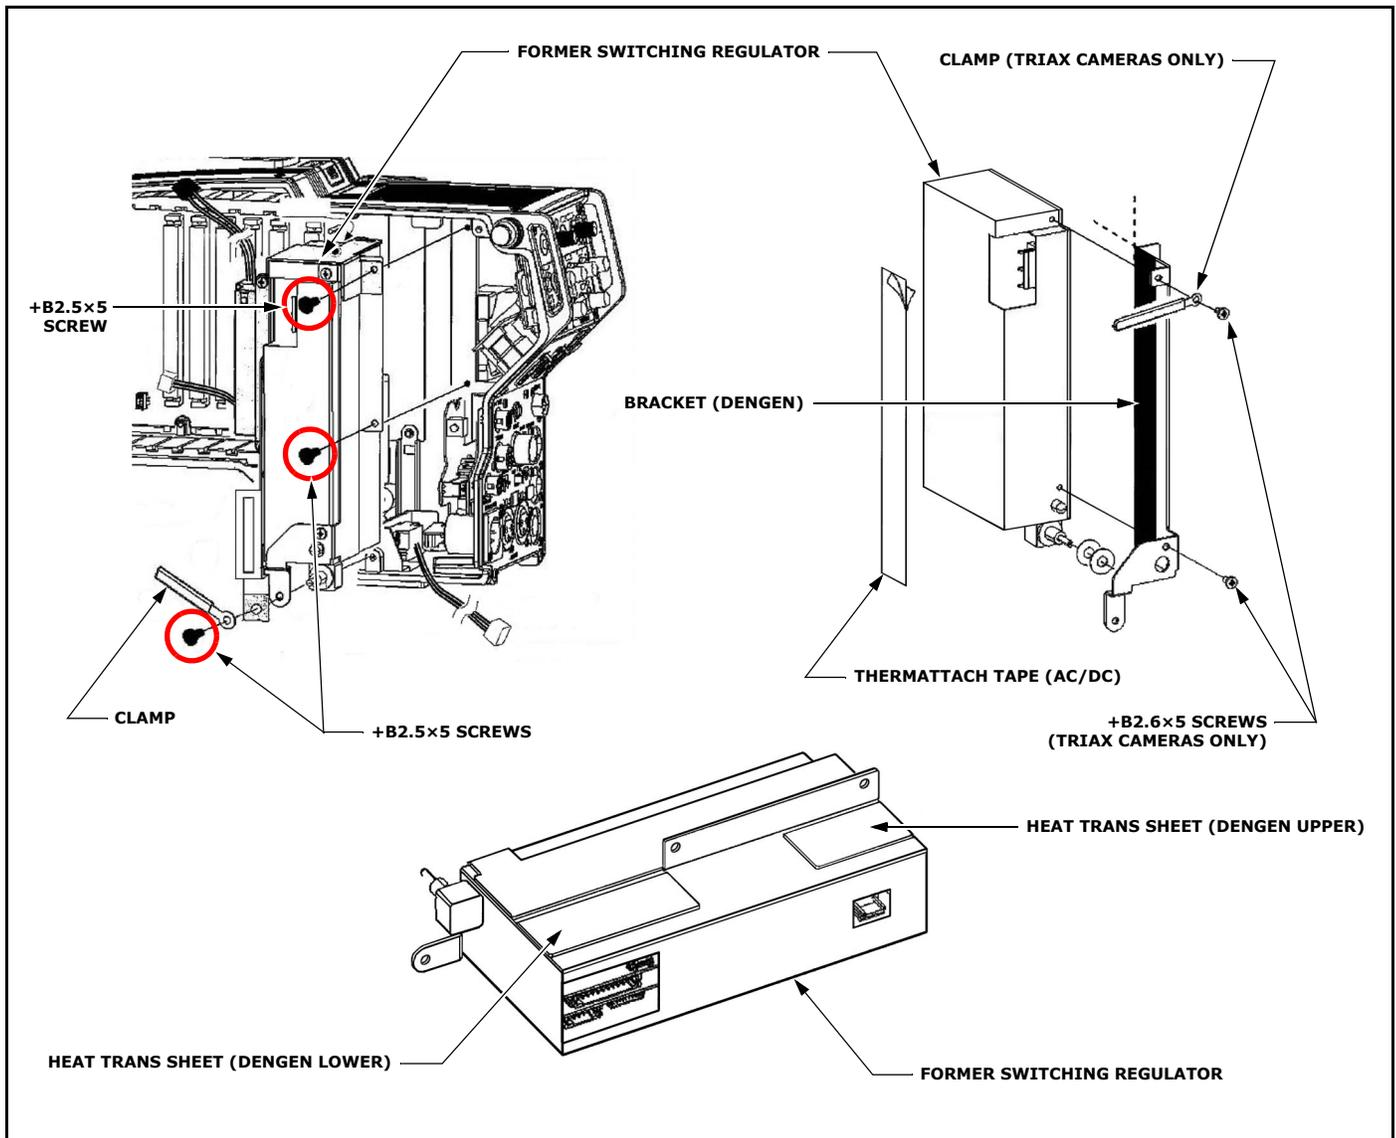
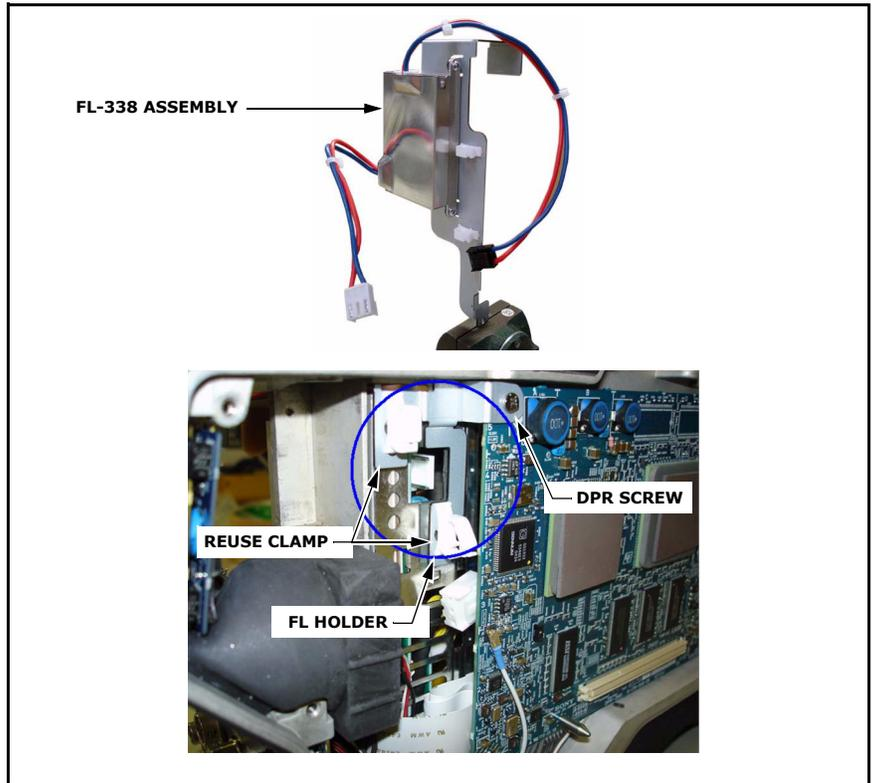

Figure 3
Figure 4
1. Remove the former power supply block (switching regulator) and all the following parts from the camera main unit. (See Figure 3.)
All Units (See Figure 3.)
Non-Triax Cameras (Excluding HDC1450/R and HDC1550/R) (See Figure 3.)
Triax Cameras (HDC1450/R and HDC1550/R) (See Figure 3 and Figure 4.)
- FL-338 assembly (See Figure 4.)
- Reuse clamps, Qty: 2 (See Figure 4.)
- FL holder (See Figure 4.)